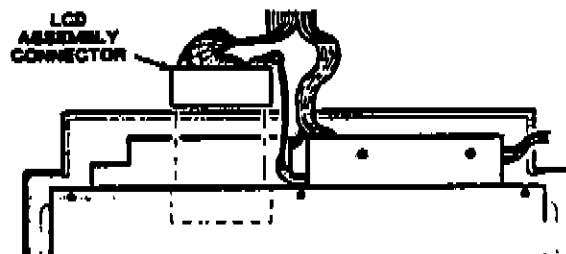

Figure 3-24. LCD Assembly Connector
Refer to Figures 3-24, 3-25, and 3-26 for the following steps.
2. Disconnect the LCD assembly connector, as shown in Figure 3-24.